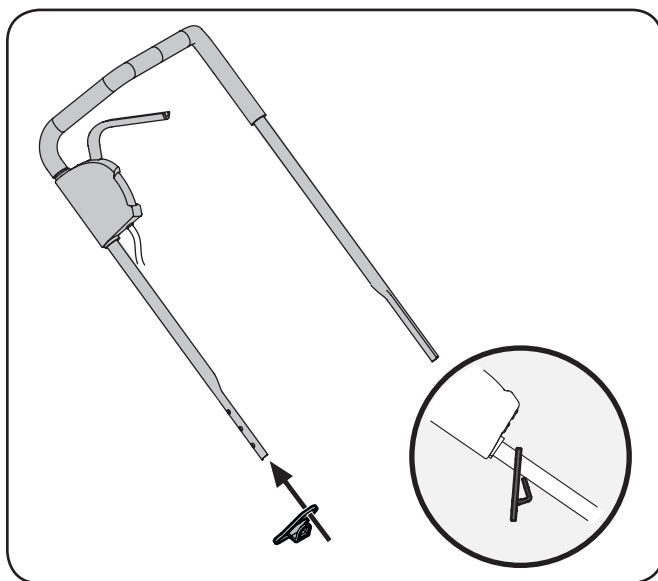

Figure 3-3
- Slide the cord retainer (if packed separately) onto the right hand side of the upper handle with the motor/blade control handle. See Fig. 3-3.